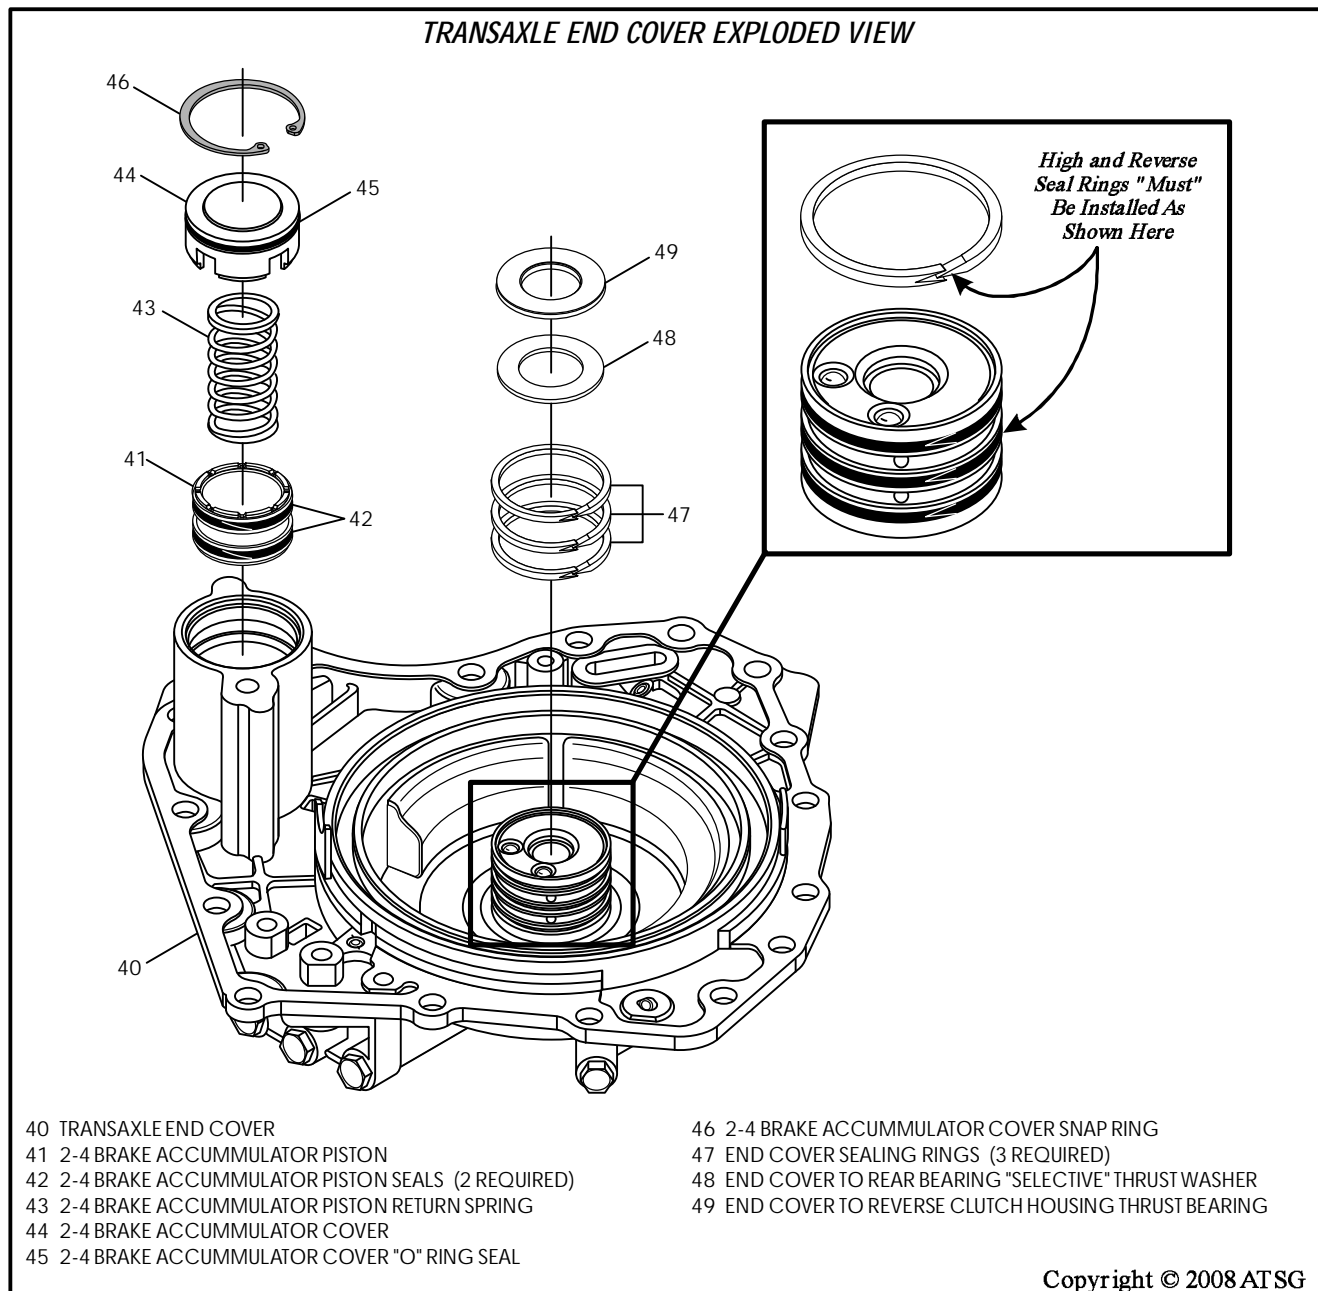

Figure 99
1. Disassemble the end cover using Figure 99 as a guide.
4. Install two new scarf cut seals on the 2-4 accumulator piston, as shown in Figure 99, and lube with small amount of Trans-Jel®.
5. Install 2-4 accumulator piston into end cover bore, as shown in Figure 99.
6. Install 2-4 accumulator spring in the piston, as shown in Figure 99.
7. Install new "O" ring seal on 2-4 accumulator cover, as shown in Figure 99, and lube with a small amount of Trans-Jel®.
8. Install accumulator cover, compress cover and install snap ring, as shown in Figure 99.
9. Install the "V" cut sealing rings onto the end cover support **exactly** as shown in Figure 99.
**Caution:** Fluid is fed through the end cover to apply the high clutch and the reverse clutch, which are both located in the reverse clutch housing. The sealing rings for the high/reverse clutch are Teflon® and one end has a point like an "arrow", and the other end is cut out the inverse of an arrow, like a "V", as shown in Figure 99. These sealing rings are directional, and when installed correctly, the point of the "arrow" is to the right and the "V" is to the left as shown in Figure 99.